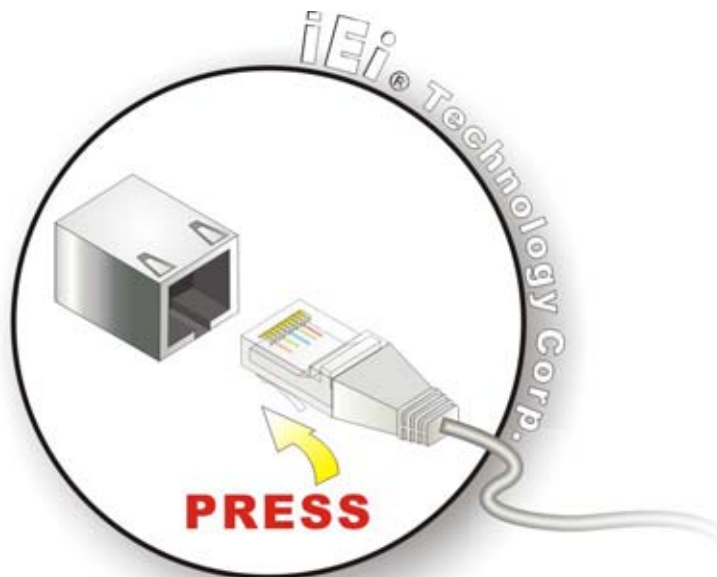

Figure 5-12: LAN Connection
Step 7: **Align the connectors.** Align the RJ-45 connector on the LAN cable with one of the RJ-45 connectors on the eKINO-945GSE. See **Figure 5-12**.